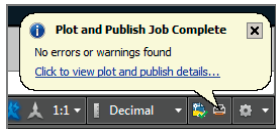

FIGURE 14.18 Plot notification window
- Click the Plot icon in the upper-left corner of the plot preview. The plot is immediately sent to the hypothetical HP DesignJet T920 output device. If this device were really attached to your computer, it would start plotting within seconds. Once the plot has been sent, a notification window appears in the lower-right corner of the user interface (see Figure 14.18). The plot is complete; click the close box in the notification window.